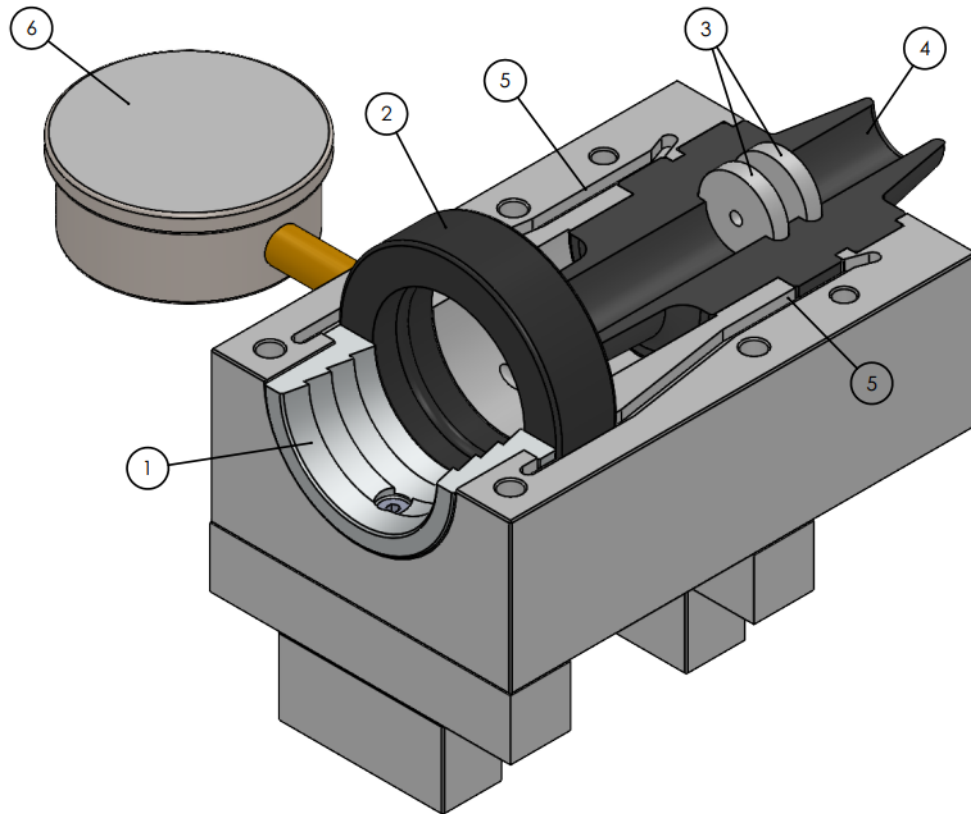

Fig. 6c Inside of a large blowing head for secondary pipes
Fix the secondary pipe into which the cable is to be blown in with the replaceable collet (1 fig. 6c) in the head.
1. Select the secondary pipe compression sleeve according to the pipe diameter used. Make sure that the gasket (2 fig. 6c) is in its seat in the head and that the pipe does not obstruct the air inlet to the head.
2. The cable seals (3 Fig. 6c) and the cable guiding sleeve (4 Fig. 6c) should be selected accordingly to the blown cable.
3. Make sure that the line gasket (5 fig. 6c) is correctly positioned on both sides in the groove